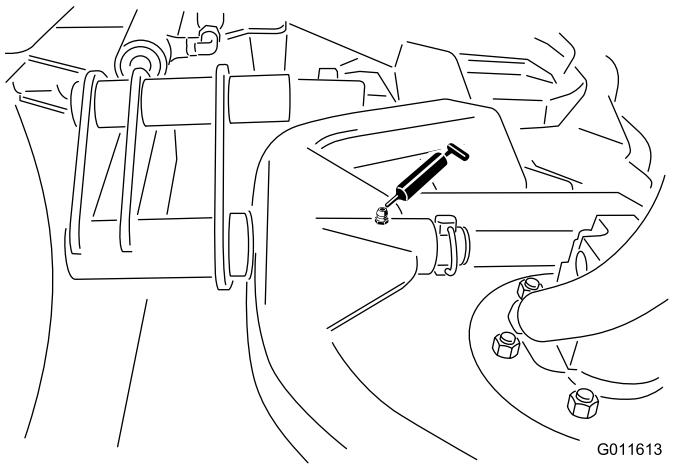

Figure 66
- Cutting unit carrier-frame pivot (1 each)—Figure 66